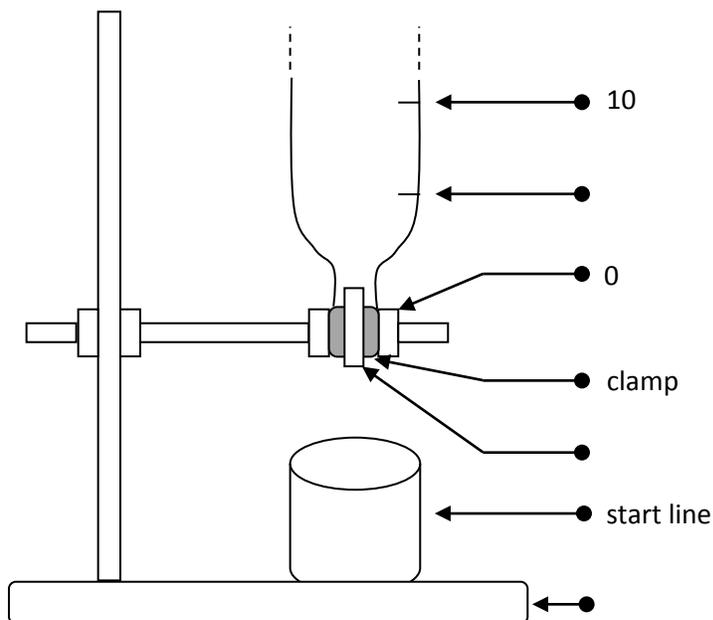

Figure 1. Set up of DIY Viscosimeter.
6. Set up the DIY Viscosimeter as shown in the Figure 1.